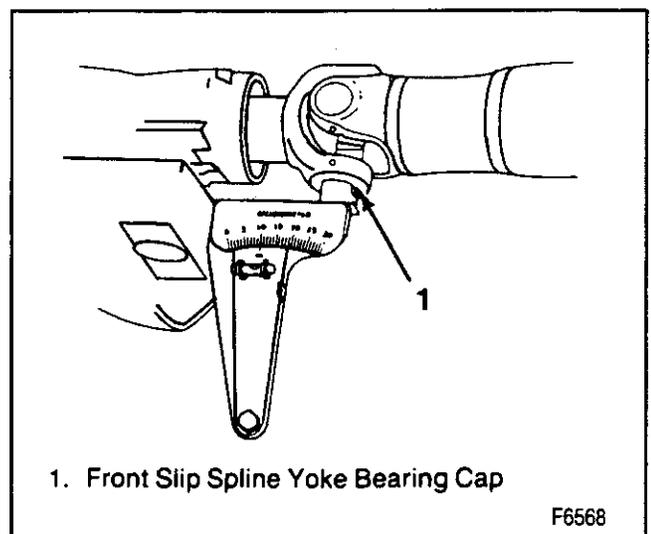

Figure 27—Measuring Front U-Joint Working Angle
2. Rotate the propeller shaft 90 degrees and place the inclinometer on the front slip spline yoke bearing cap (figure 27). Center the bubble in the sight glass and record the measurement.